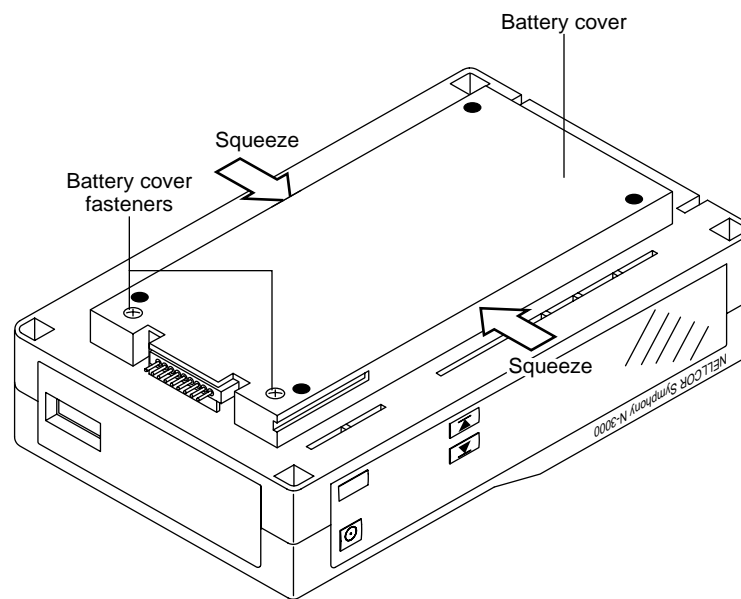

Figure 3-4: Battery Cover Removal
3. Set the N-3000 upside down facing you, as shown in Figure 3-4.